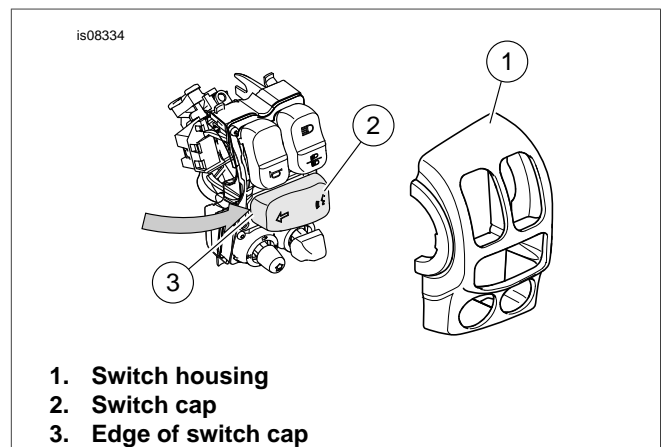

Figure 1. Switch Cap Removal (Left Side Shown)
2. See Figure 1. Carefully pry the edge (3) of the currently installed turn signal switch cap (2) up off the switch module.